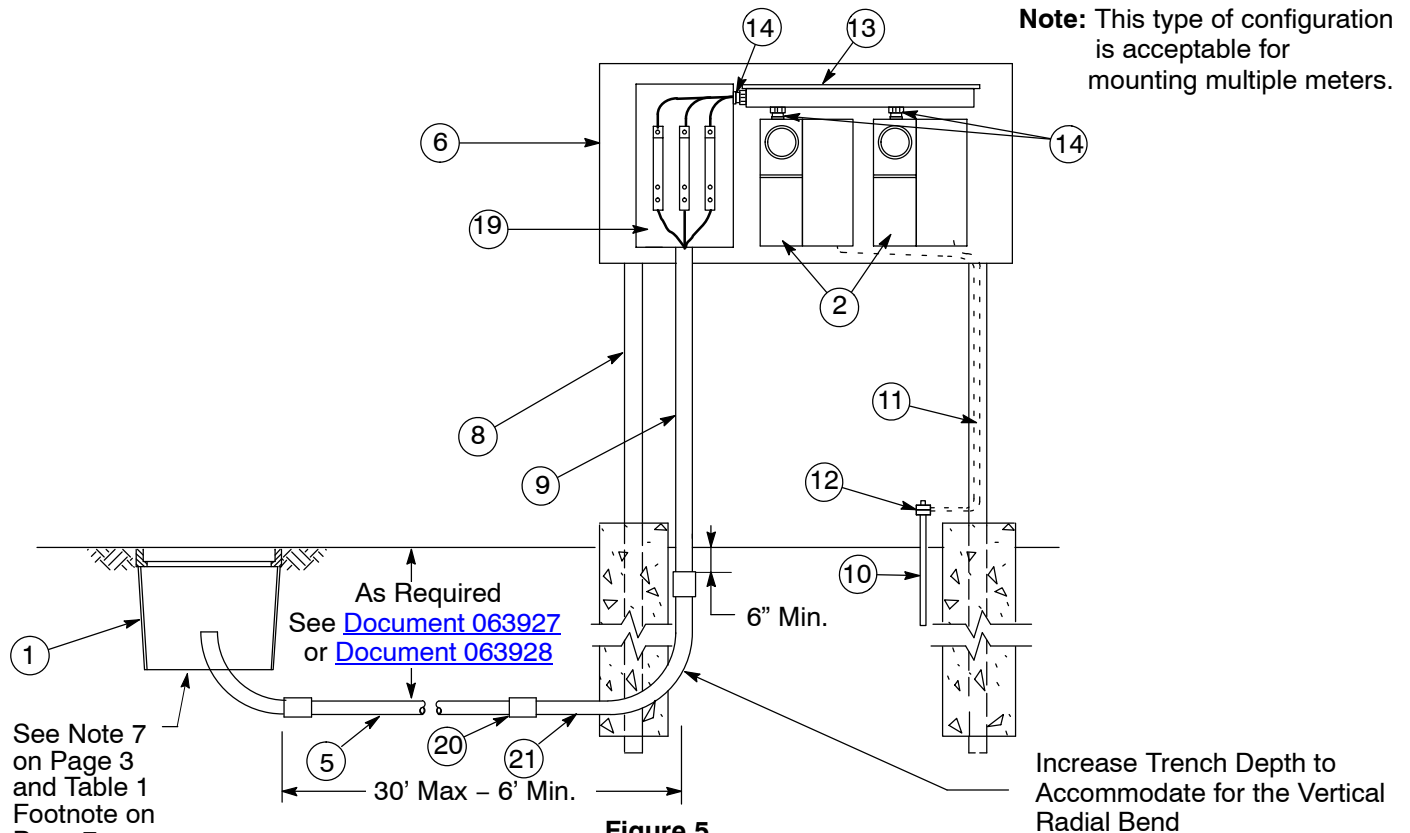
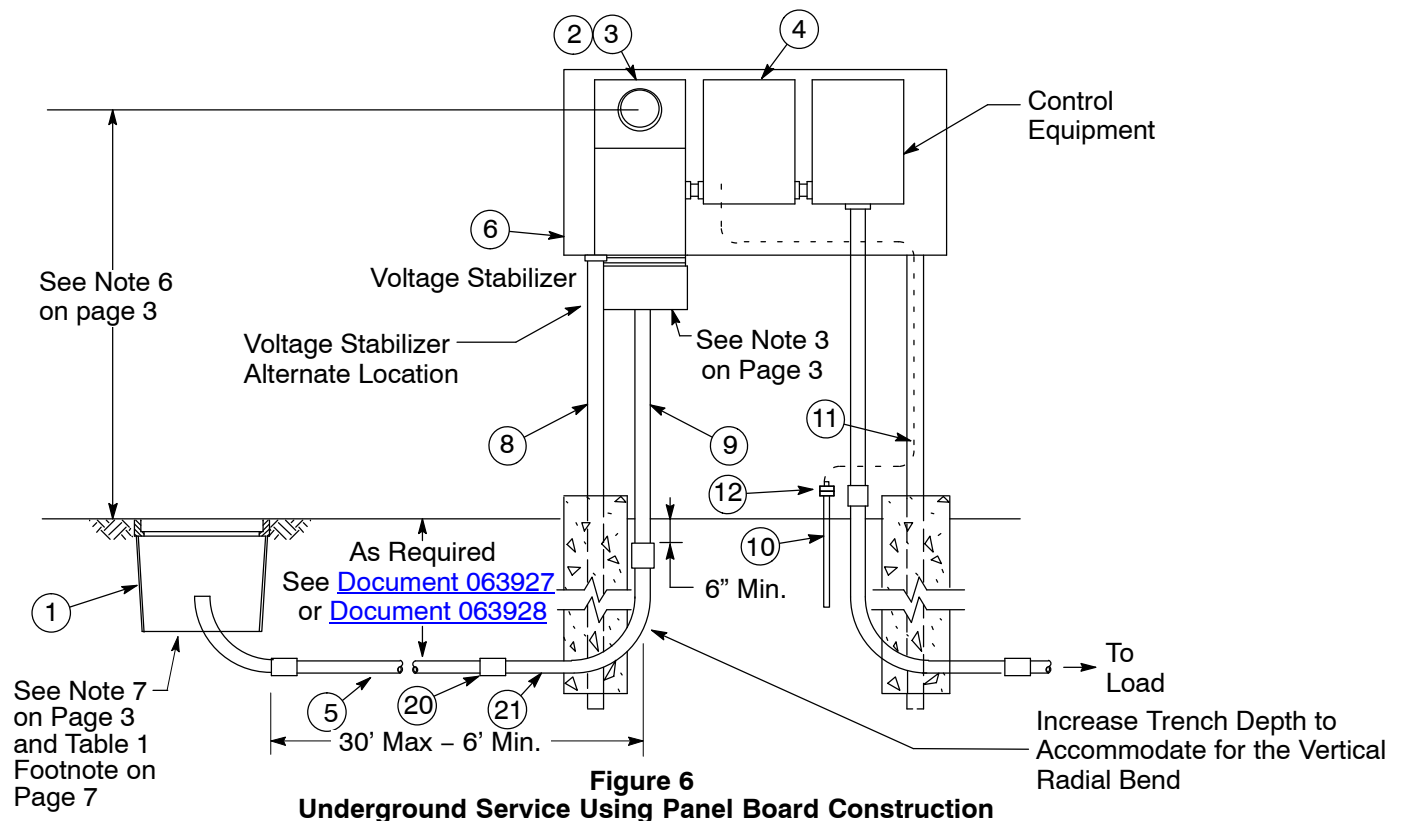

Figure 5
Figure 6
The customer is responsible for bonding and grounding metering and service termination equipment enclosures. See the requirements in Greenbook Section 5.8. Grounding, including Figures 5–15 and 5–16. Also Ground and bond in accordance with the National Electrical Code (NEC) and local ordinances. PG&E prefers, but does not require, the grounding electrode conductor wire to be protected against physical damage by rigid steel conduit or armored cladding
6	UG Panel Board Construction (See Figures 5 – 6)
1. Updated Notes 1.A.(1) and 2 on Pages 1 and 3.
3. Revised Figure 5 & Figure 6 on Page 5 with Item 21.